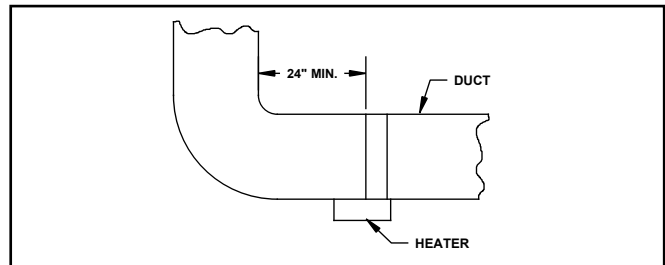

FIGURE 3.1.1 PLACEMENT: ELBOW MINIMUM REQUIREMENT
5. Always locate the heater at least 24" from an elbow or turn. (See Figure 3.1.1)